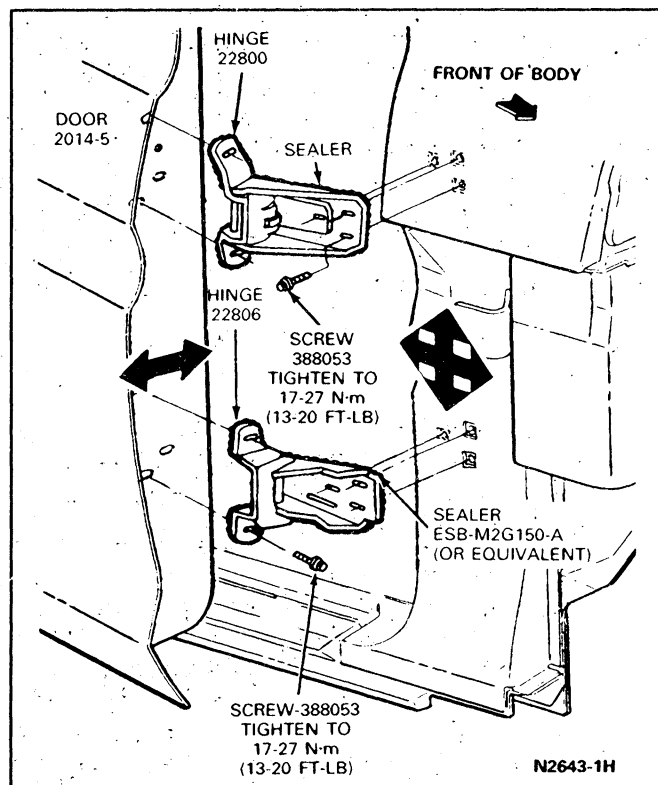

FIG. 2 Door Hinge Adjustment—Bronco and F-150—F-350
1. Refer to Figs. 2 and 3, to determine which hinge bolts must be loosened to move the door in the desired direction.